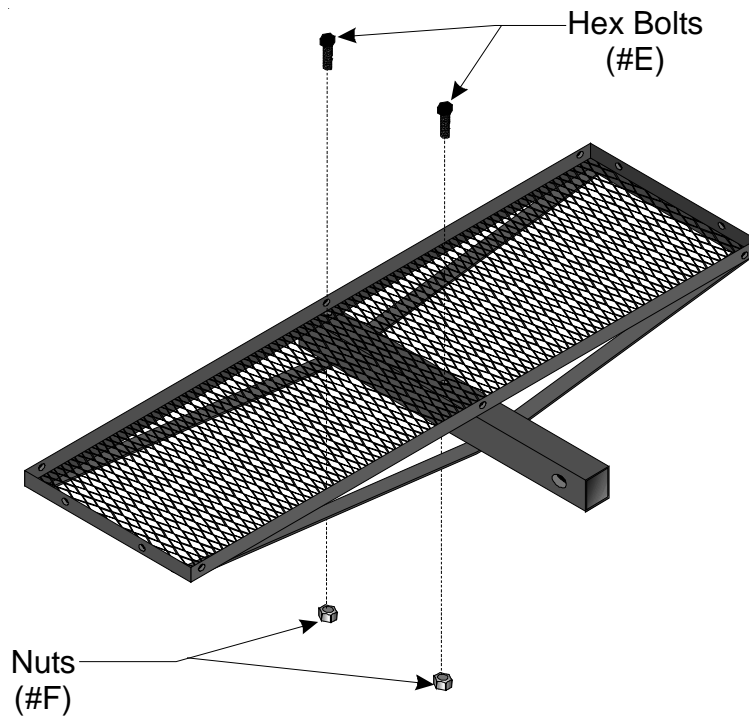

Figure 2 — Inserting Hex Bolts
Step 4: Insert two HEX BOLTS (#E) through the top of the BED FRAME and down through the RECEIVER MOUNTING BAR as shown in Figure 2.